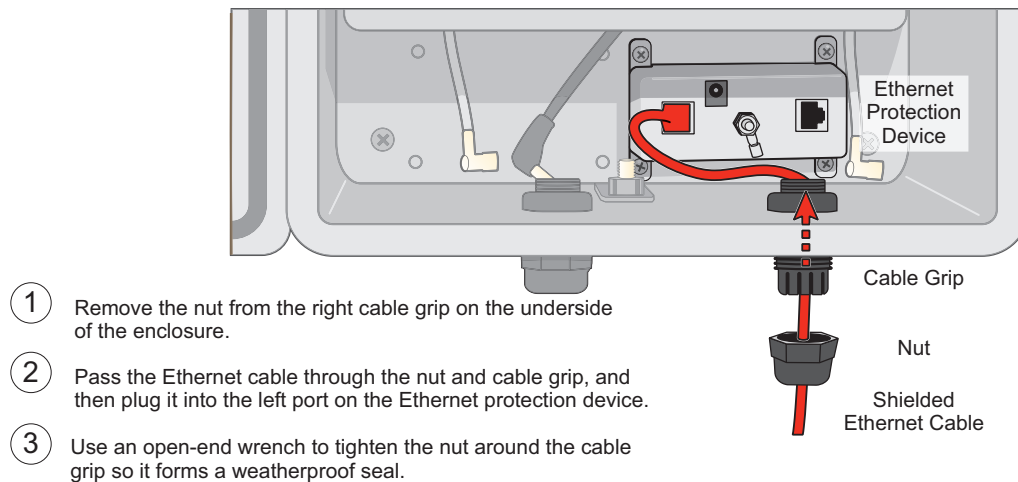

Figure 8. Connecting the Ethernet cable through the cable grip to the Ethernet protection device.
3. Leaving some slack in the cable inside the enclosure, reattach the nut, and then use an adjustable open-end wrench to tighten it securely around the cable (see Figure 8).